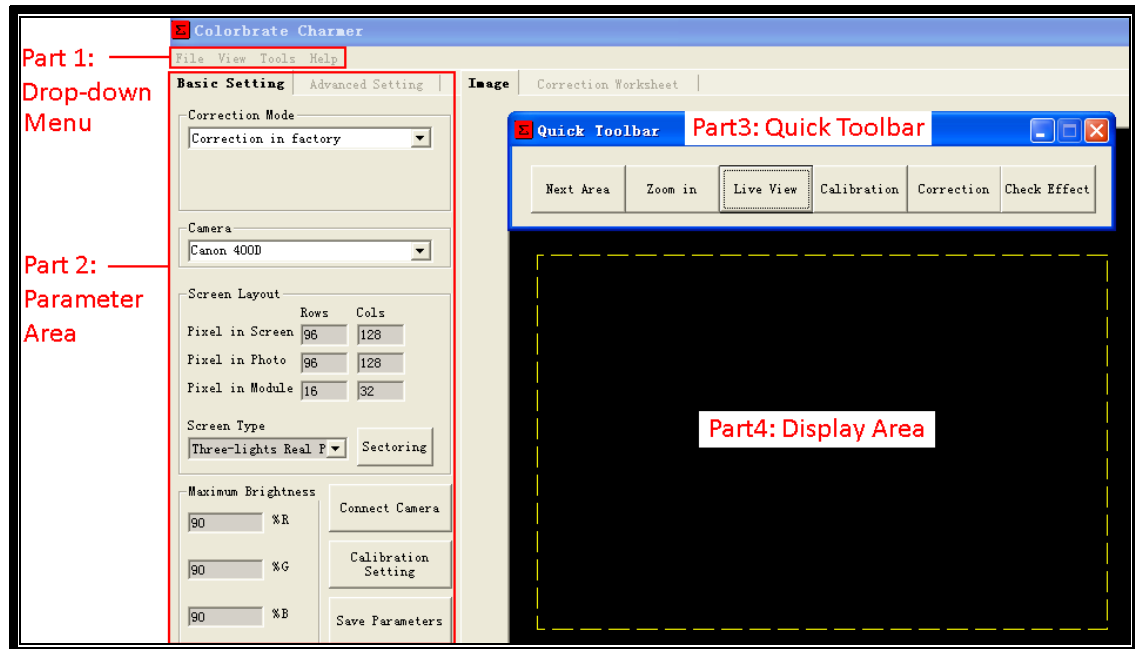

Fig. 2-1
The correction interface contains four parts: **Drop-Down Menu**, **Quick Toolbar**, **Parameter Area** and **Display Area**, shown as Fig.2-1.
Step2: Install the camera equipment, install the camera on a tripod, and put it on a stable place around 6 ~ 8 meters in front of the screen (generally choose the best location for the viewer to watch the screen), and then connect the camera and a PC with a camera cable. As shown in Fig. 2-1.